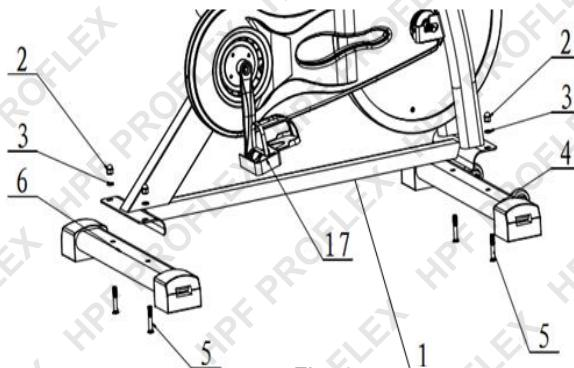

Fig. 1
2. See *Fig. 1*. Attach the front foot (4) and rear foot (6) to the frame (1) using 4 coach screws (5), curved washers (3) and cap nuts (2). Ensure that the square holes are facing the ground and the front foot is at the front of the bike, with wheels facing forward. Ensure the washers follow the shape of the tube when installed. Tighten (rotate right) the nuts using the supplied spanner.